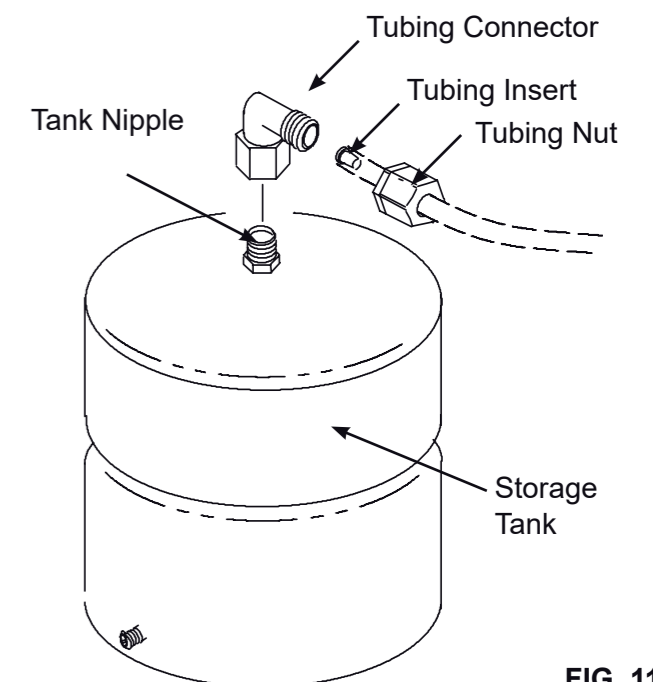

FIG. 11
1. Apply of thread sealing tape (2 wraps clockwise) to the threads on the nipple at the top of the tank. See Fig 11.
2. Locate the tubing connector. See Fig. 11. Tighten the tubing connector onto the tank nipple 7-8 full turns, being careful not to cross thread or overtighten.
5. Connect yellow tubing to tank connector. See Figs. 11 and 21.